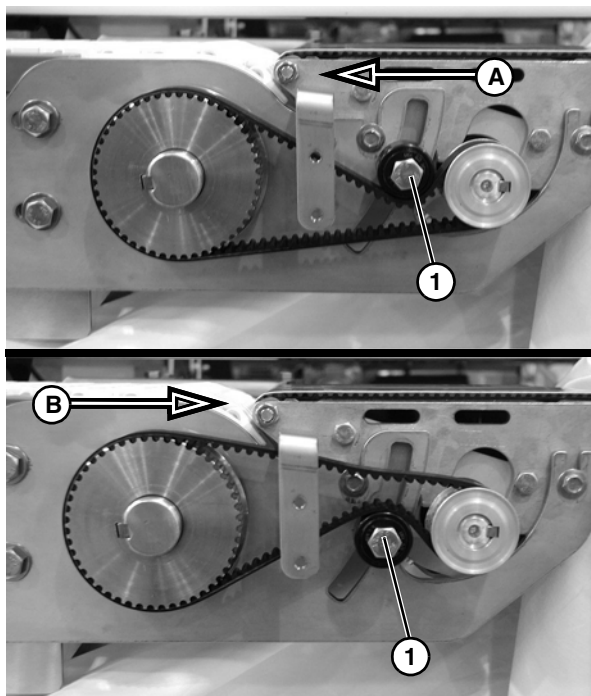

Figure 19
17. Depending upon belt travel (direction A or B), locate timing belt tensioner (**Figure 19, item 1**) as shown.